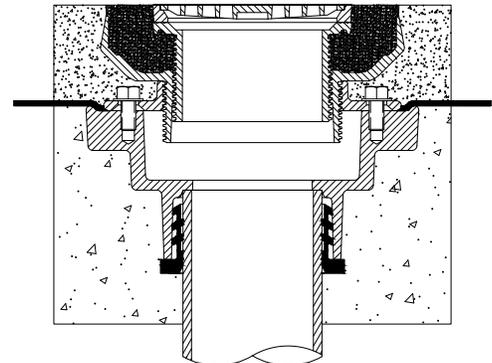

Fig. 12S
12. Fill in shroud with cement or grout. Ensure to completely fill in around entire head assembly flush with finished floor. Remove protective label once construction is complete. See Fig. 12S